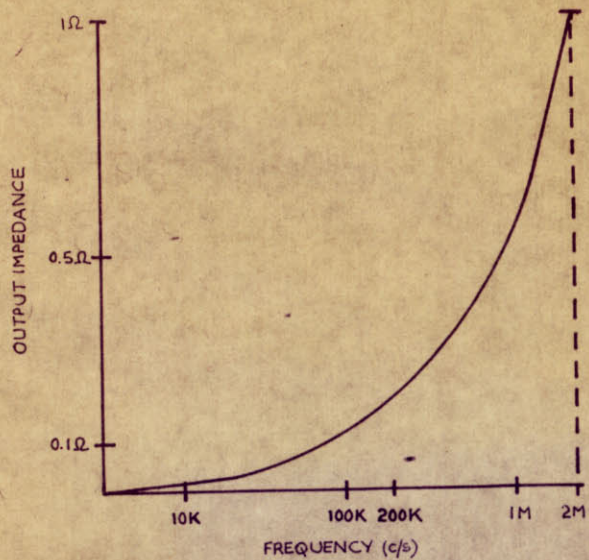

Fig 2. Output Impedance
See Fig. 2.
- (iii) Output Impedance—For alternating load superimposed on a steady load, the output impedance of the supply increases with frequency, due to fall off in gain of the amplifier until it is determined only by the capacitor across the output terminals. A typical output impedance-frequency curve is shown in fig. 2. This again is measured with the appropriate O/P and F/B terminals linked at the terminals.